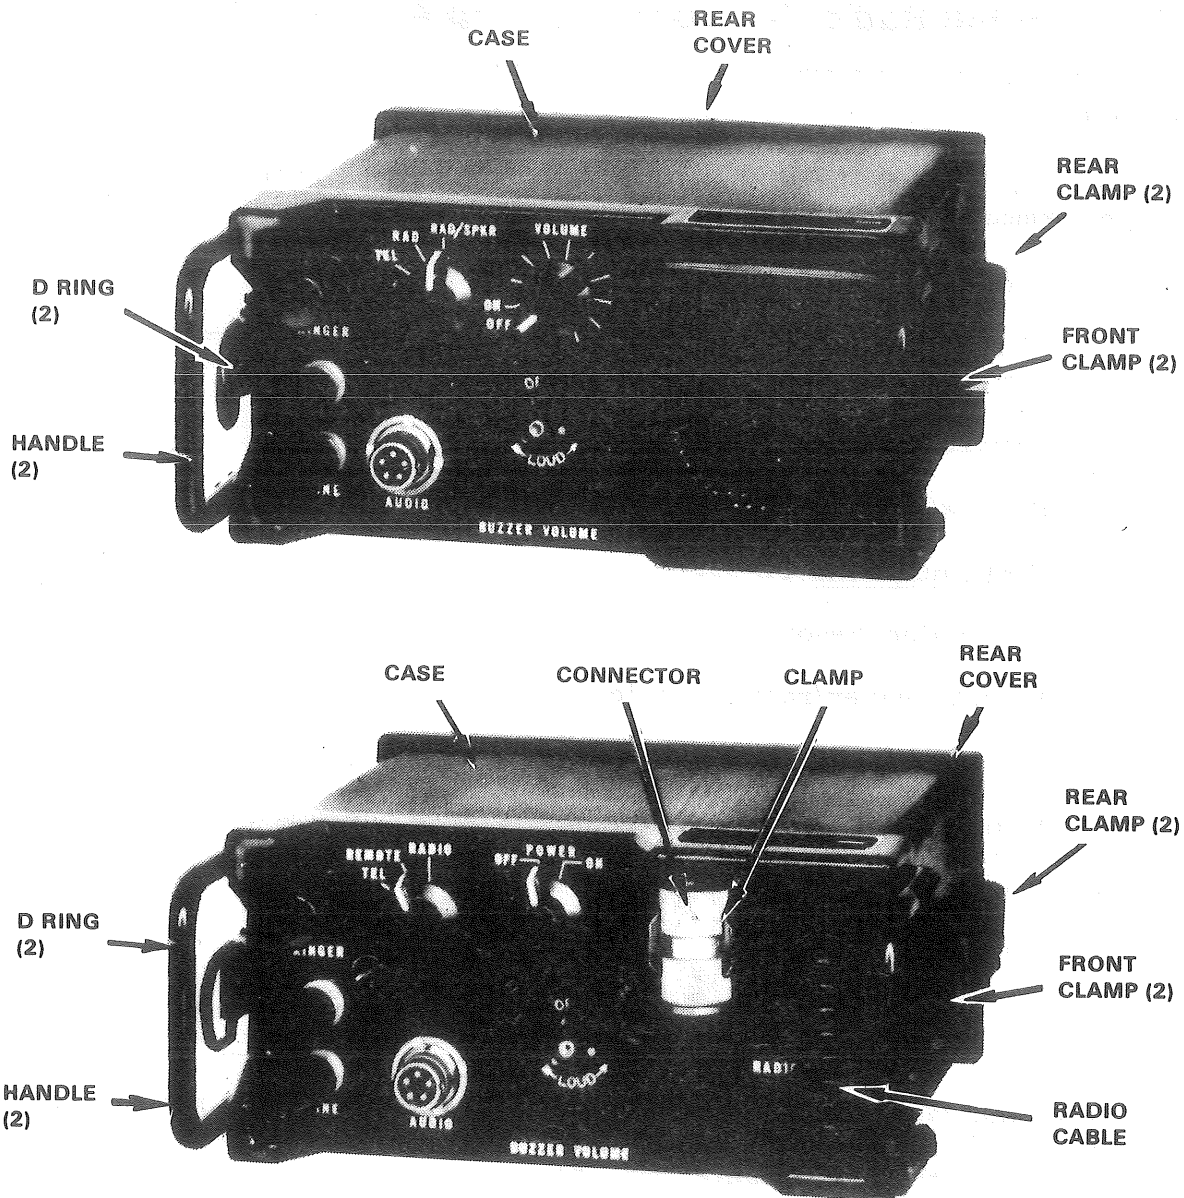
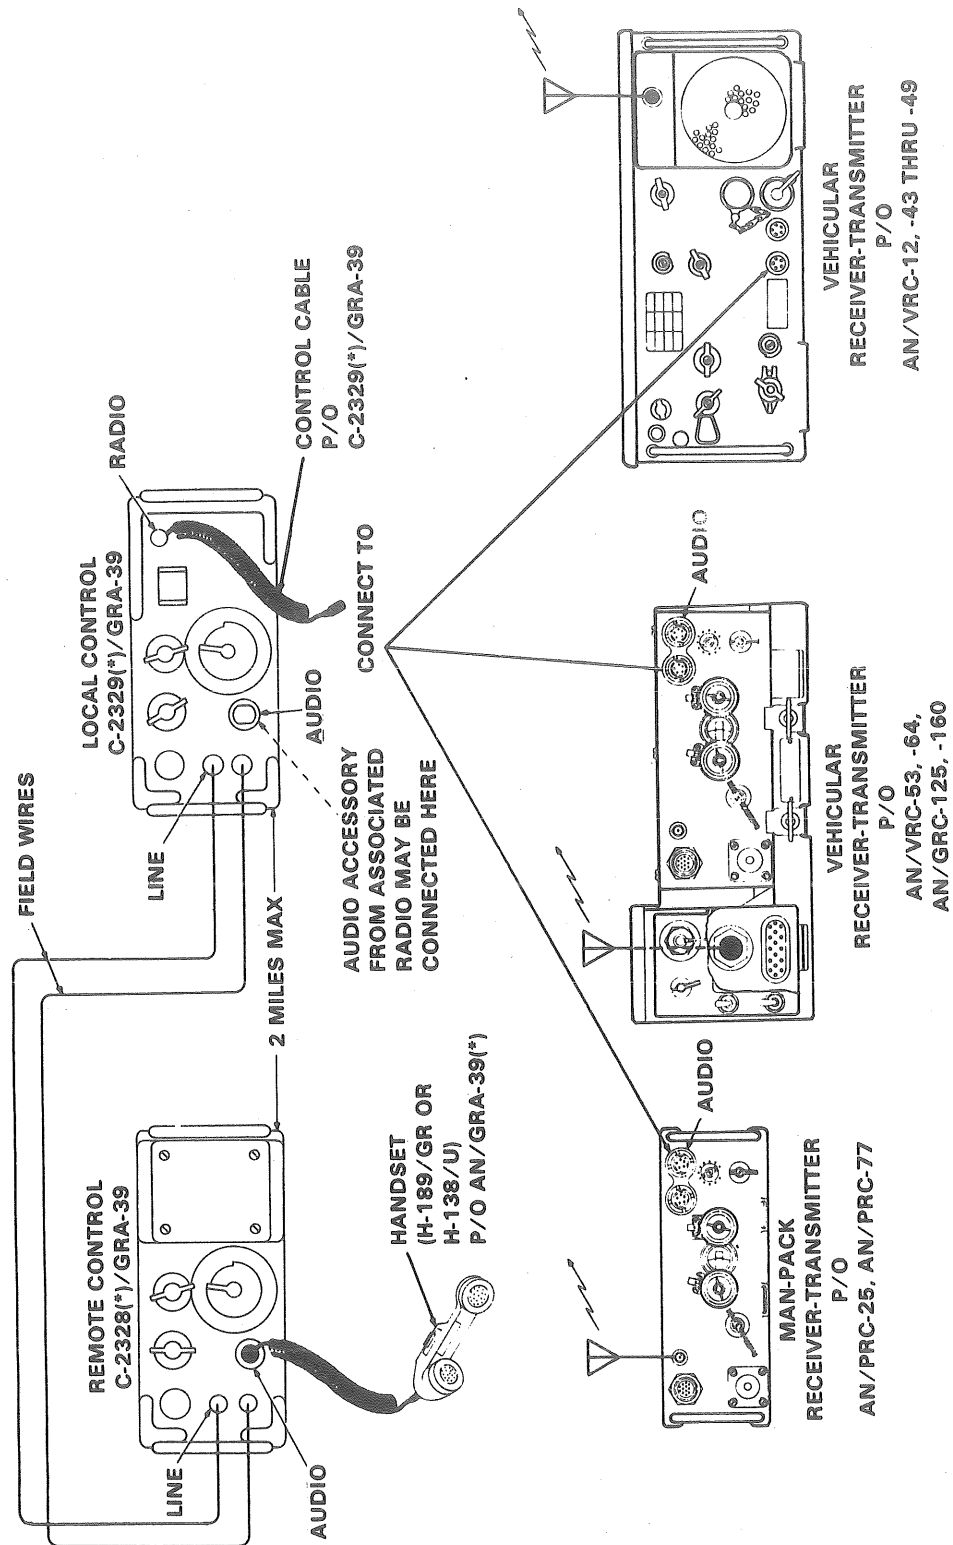

Figure 1. Major components of Radio Set Control AN/GRA-39(*).
Figure 3. AN/GRA-39(*) interconnections with radios.
- a. Unsnap the clamps holding the rear covers of the cases and remove the covers (fig 1).
2. Install control units on site. (Refer to fig 3 and TM 11-5820-477-12, para 2-5.)
- (1) Next to or on the receiver-transmitter.
- (2) Connect the connector of the radio cable (fig 1) to the receptacle of the radio receiver-transmitter (fig 3).